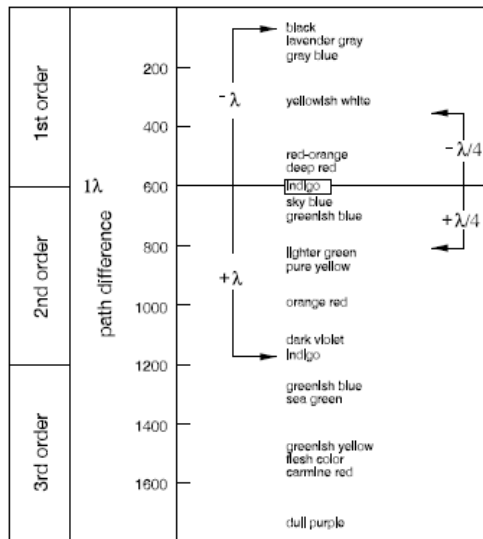

Fig. 4-15 Schematic diagram of the color charts according to Michel-Lévy
- Now turn the stage on by  $45^\circ$  so that the longitudinal axis of the fiber is oriented NE-SW (Fig. 4-15). The specimen will display the greatest brightness here (diagonal position). In this position the specimen may have any color.
The grayish-white color appearing first in the bright position in the above example (Fig. 4-14/1) corresponds to a path difference of 150 nm according to the Michel-Lévy color chart (Fig. 4-15).